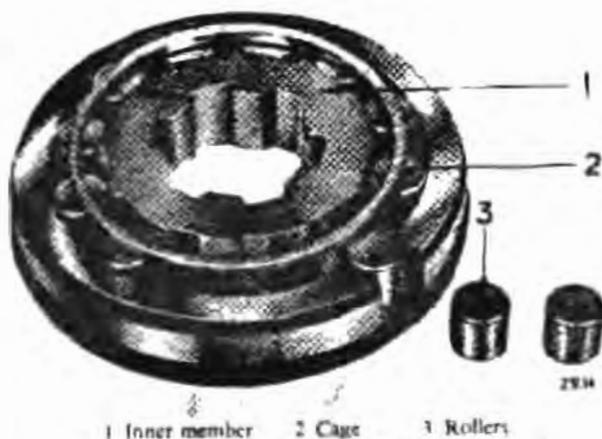

Fig. 15. Using Tool No. L 178 to assemble roller clutch
Refit the thrust washer (31) and uni-directional clutch inner member (29) with its rollers (28), cage (27) and spring (30). The "Free Wheel Assembly Ring" and "Transfer Ring" shown on Fig. 15, are ideal for assembling the uni-directional clutch, but where these fixtures are not available, assemble the rollers and hold them in place with a strong elastic band.